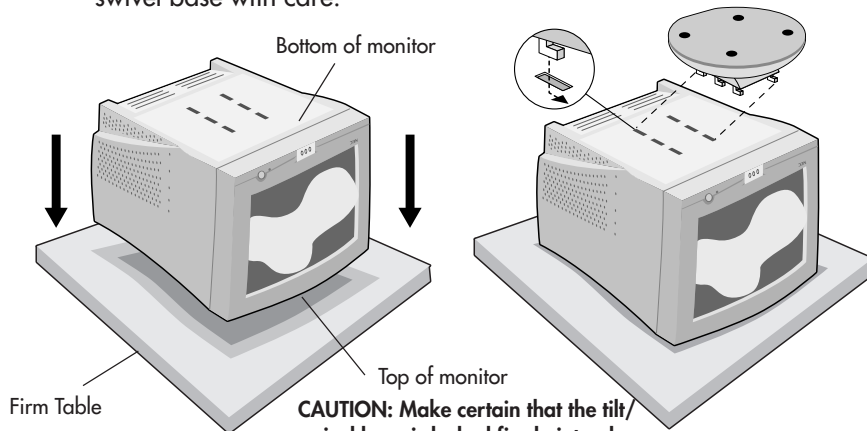

Figure TS.1
1. With the monitor unplugged from your system and the wall outlet, carefully turn the monitor upside down on a firm table (**Figure TS.1**).